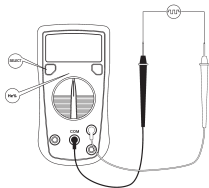

figure 7
**G. Frequency and Duty Cycle Measurement** (see figure 7)